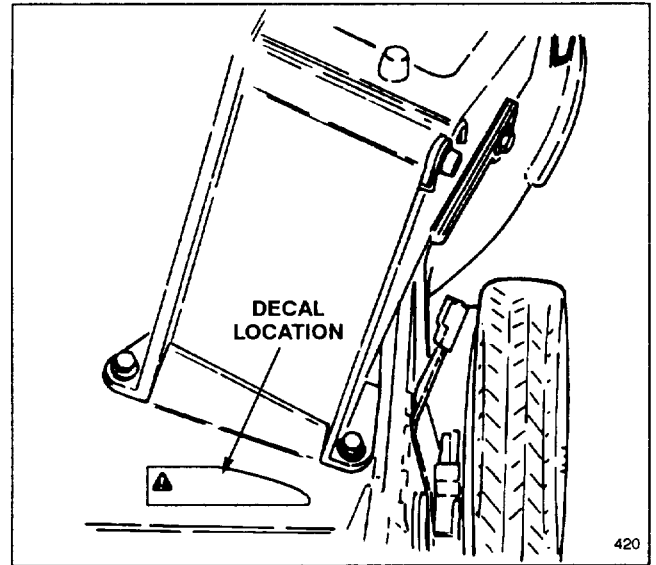

Figure 5
2. Install decal in area shown in Figure 5. **Do not place side discharge kit decal over model/serial number decal.**